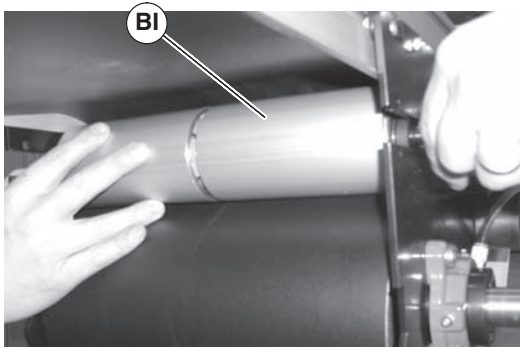

Figure 86
7. Slide out tensioning pulley (Figure 86, item BI).